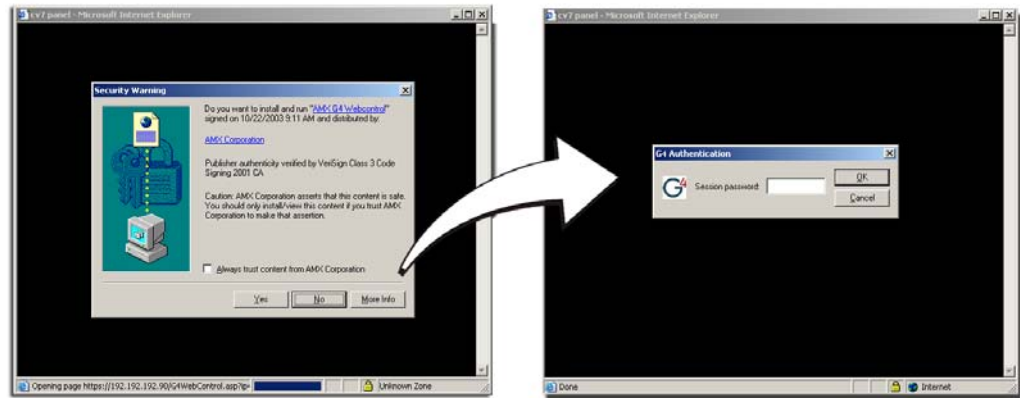

FIG. 70 Web Control VNC installation and Password entry screens
6. Click on the G4 panel name link associated with the target panel. A secondary web browser window appears on the screen (FIG. 70).
10. Enter the Web Control session password into the *Session Password* field (FIG. 70). *This password was previously entered into the Web Control Password field within the G4 Web Control page on the panel.*